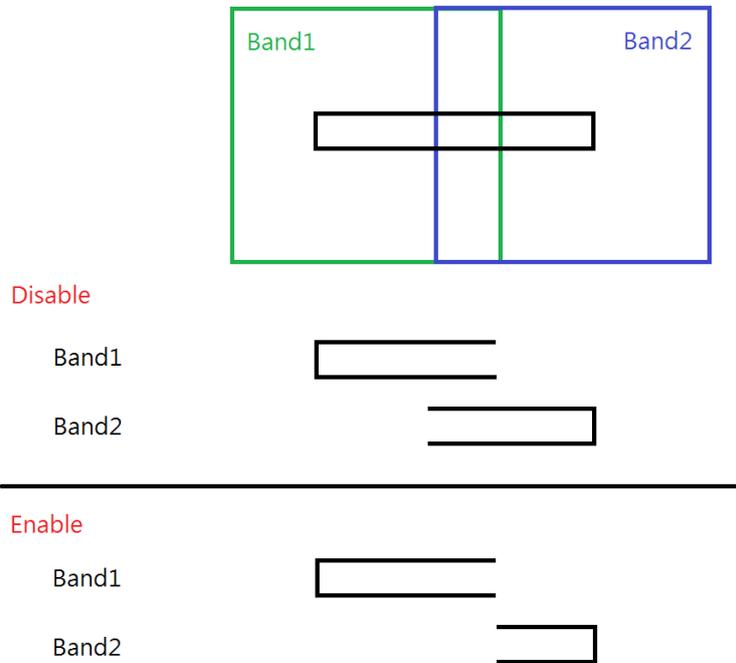

Fig. 3.1.11
**Avoid duplicate marking:** Make sure will not mark same object twice. See fig. 3.1.11.